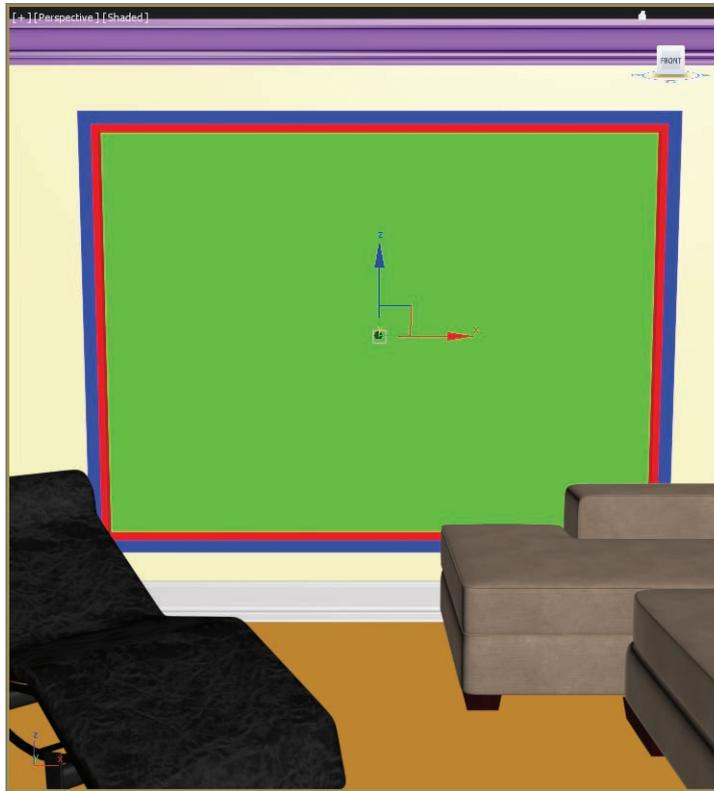

FIGURE 10.22 The Multi/Sub-Object Material applied to the window object shows the different colors applied to the different parts of the window.
- Apply the MSOM to the window in the living room area, as shown in Figure 10.22. The colors show clearly which section of the window corresponds to which ID number.